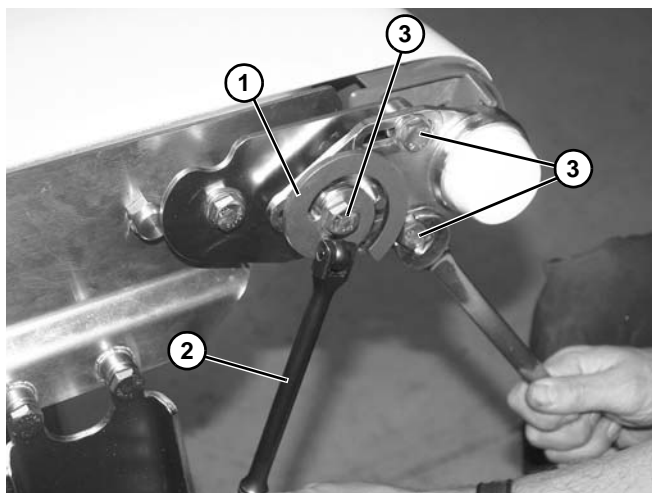

Figure 108
2. Rotate idler tail bracket (Figure 108, item 1) with a 3/8 inch breaker bar (Figure 108, item 2). While applying tension, tighten three screws (Figure 108, item 3) on each side.